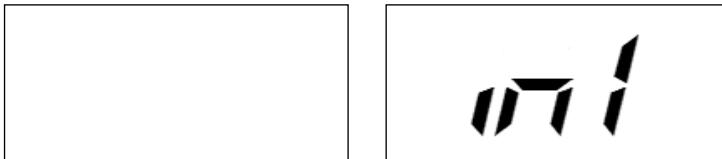

Fig. F6.3 Inputting Position of W1
- 3) If there is unbalance on the outer side, the machine will display the message shown in Fig. F6.3.